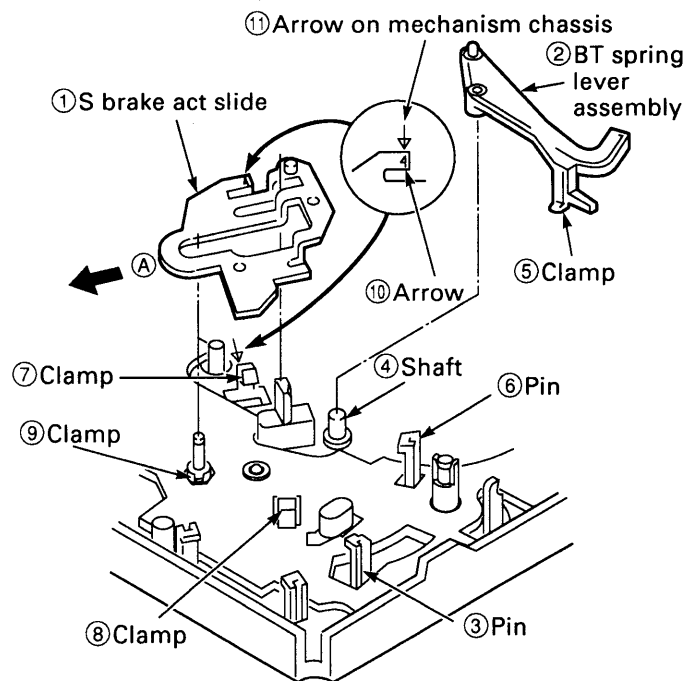
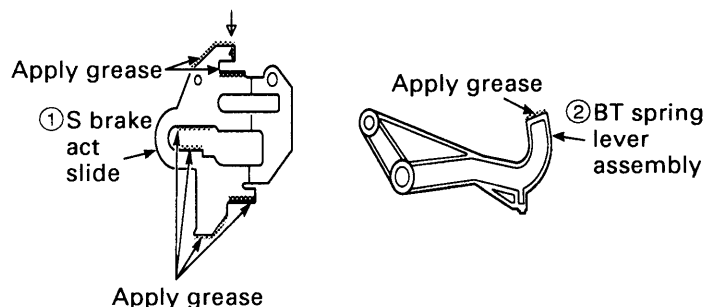

Fig.3-13-3
Fig.3-13-4
3-13-3. S BRAKE ACT SLIDE AND BT SPRING LEVER ASSEMBLY (See Figs.3-13-3 and 3-13-4)
1. Apply grease (VHJ-0100) to the shaft ④ shown in Fig. 3-13-3, and to the BT spring lever assembly ② and the S brake act slide ① shown in Fig.3-13-4.
2. After mounting the BT spring lever assembly ② on the Shaft ④, hook the BT spring onto the clamp ⑤ and press it until it touches the pin ⑥.
3. Make sure that the clamps ⑦, ⑧ and ⑨ have snapped into the S brake act slide ①. Align the arrow ⑩ on the S brake act slide ① with the arrow ⑪ on the mechanism chassis.